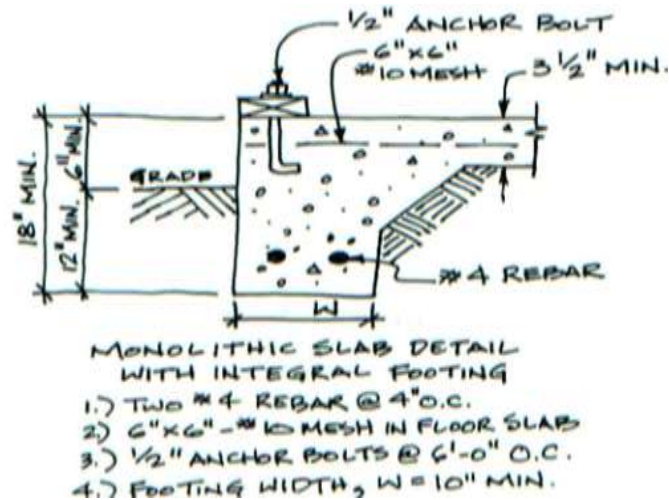
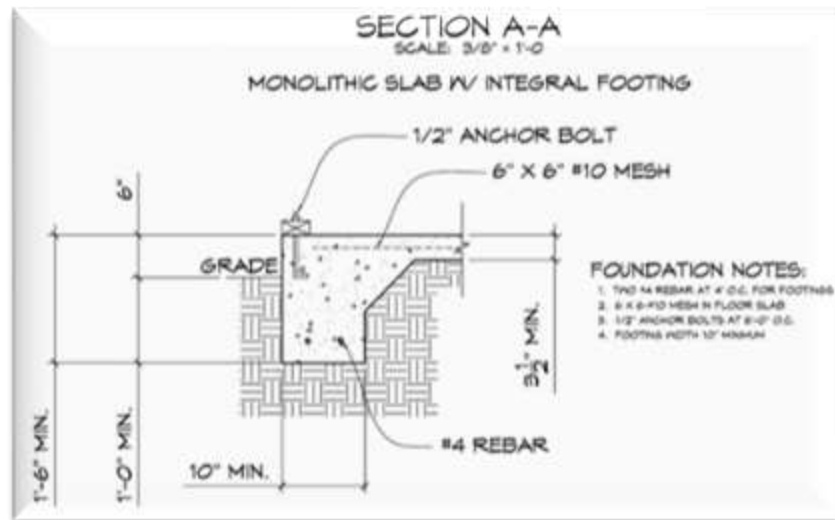

Figure 1.12 Architectural Designer's Sketch.
Figure 1.13 An AutoCAD® drawing of Figure 1.12.
project. Design inputs may include free-hand sketches with dimensional information, detailed notes, or even CAD models. Figure 1.12 shows an example of an architectural designer's sketch of a foundation detail for a house.
- CAD (computer aided drawing) allows drafters to create drawings more quickly than traditional drafting techniques. Figure 1.13 shows an AutoCAD® drawing prepared from the designer's sketch shown in Figure 1.12.